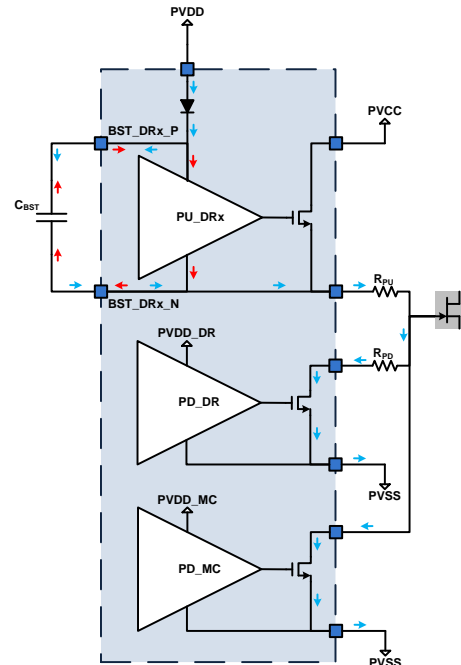

Figure 26. Bootstrap capacitor charging and discharging paths.
- The bootstrap capacitor C_{BST} is charged for the first time during the startup time given by the rise time of the power supply. It is recommended to wait for at least a $50\mu\text{s}$, after power supply startup, before sending any PWM signal to ensure correct first charge of the C_{BST} . The charging path is, as described in Figure 26 with the blue arrows, going from the 5V versus VSS power supply PVDD via the integrated bootstrap diode, then the external R_{PU} , and finally the PD_MC driver in parallel with the R_{PD} and the PD_DR driver. Hence, C_{BST} must fulfill the following condition to guarantee its total charge during the startup, which gives an upper limit:
- The bootstrap capacitor C_{BST} is discharged into the PU_DR driver during the ON time t_{ON} as shown by the red arrows in Figure 26.